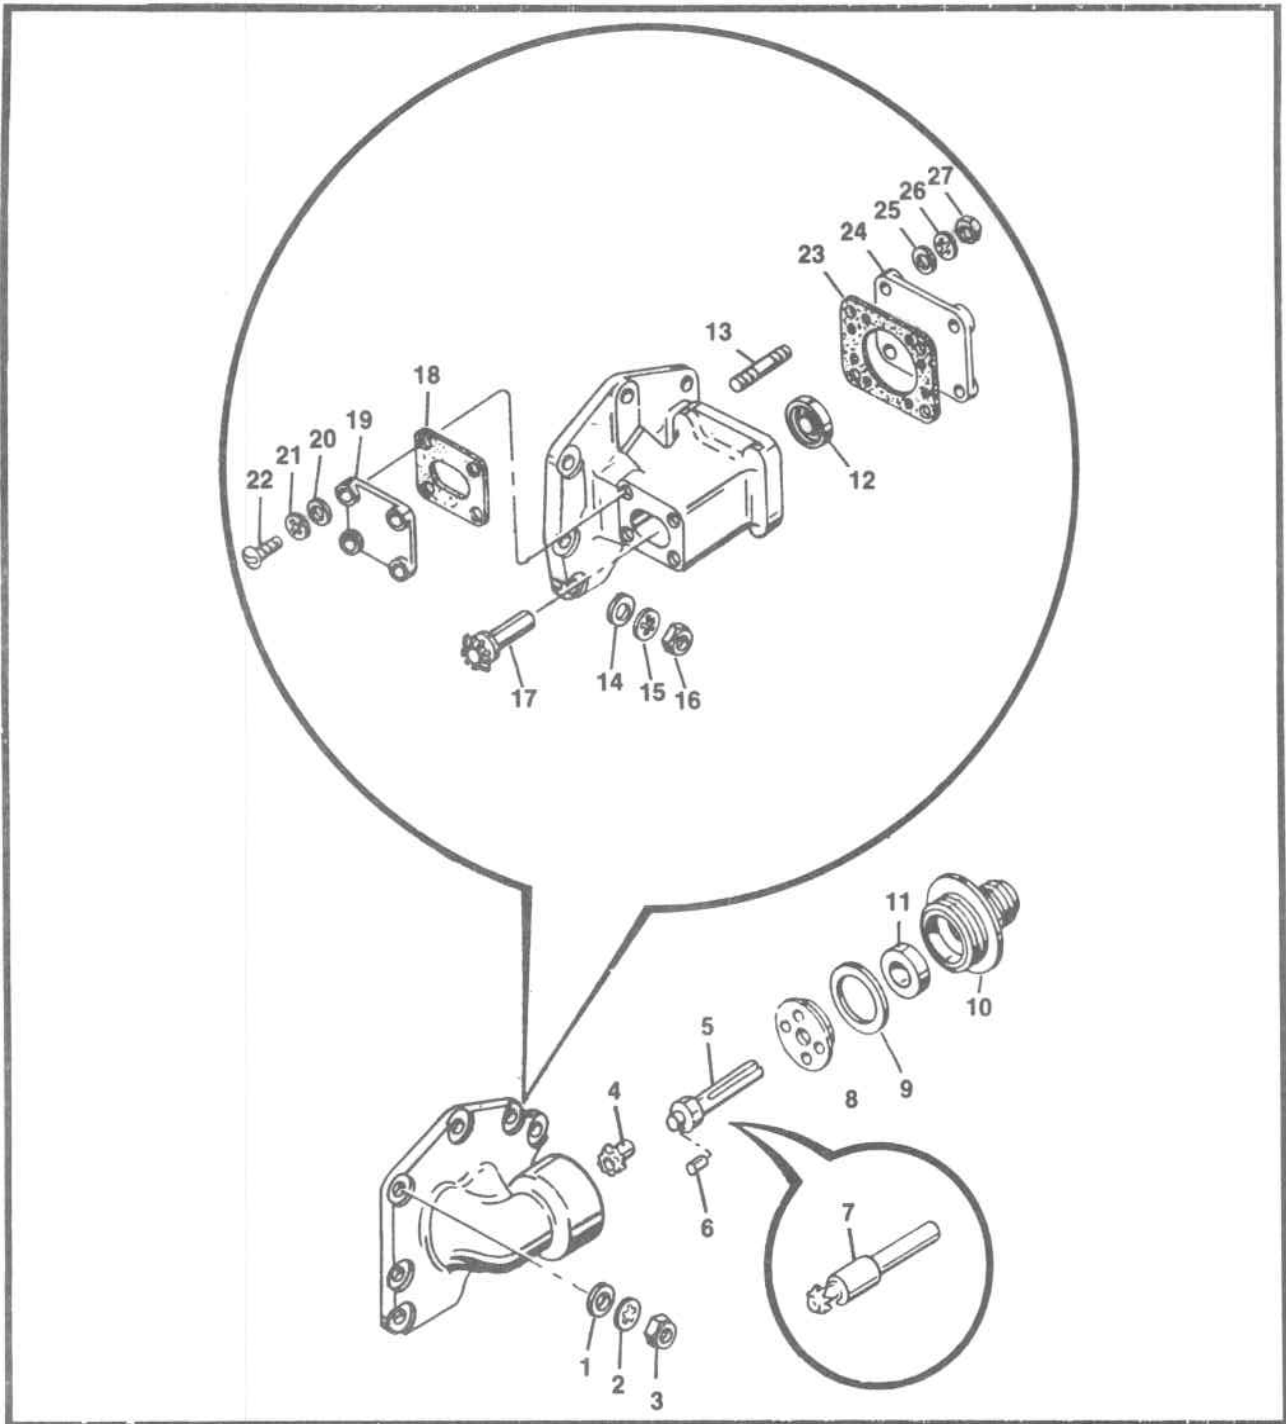

FIGURE 72-10-13B. OIL PUMP COVER AND TACHOMETER DRIVE.
- B. Loosen the oil filter cap (49 or 50) to facilitate later removal. Loosen the tachometer drive housing (10, Figure 72-10-13B) as applicable by turning its hex to the right.
- C. Remove attaching hardware (2, 3, 4) from the crankcase-to-pump studs. Pulling pump assembly to the rear, remove pump (5) and gasket (1).
- D. Remove oil filter (43 or 50) and gasket (51).
- E. Remove attaching hardware (1, 2, 3, Figure 72-10-13B) and oil pump tach drive cover (41 or 42) as applicable.
- F. Remove tach drive housing assembly, seal, gasket, thrust washer and tach drive shaft (items 4 thru 11, Figure 72-10-13B) from oil pump tach drive cover (41) or remove attaching hardware (20, 21, 22, 25, 26, 27, Figure 72-10-13B, Tachometer Drive), covers, gaskets, oil seal and tach drive shaft (items 8, 19, 23, 24, 12 and 17, Figure 72-10-13B, Tachometer Drive) as applicable.
- I. Remove plug (7) from oil pump housing.